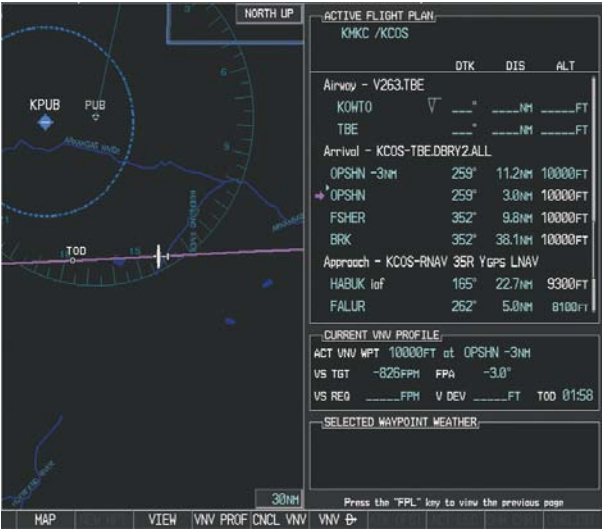
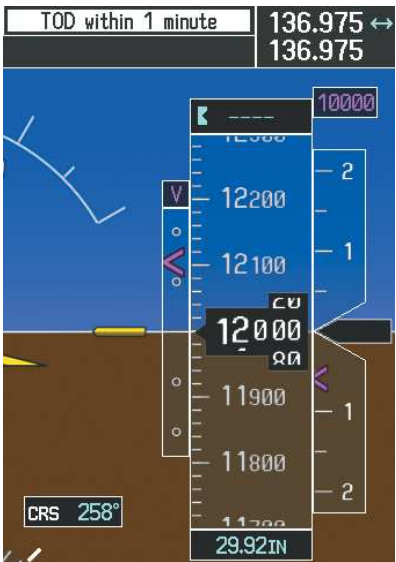

Figure 7-37 Approaching Top of Descent (TOD)
Figure 7-38 VDI & RVSI Upon Reaching Top of Descent (TOD)
- 15) As seen in Figure 7-37, the aircraft is approaching TOD. Note the target vertical speed required to reach the selected altitude. The Vertical Deviation Indicator (VDI) and the Required Vertical Speed Indicator (RVSI) are now displayed on the PFD as shown in Figure 7-38. When the aircraft is within one minute of the TOD, it is annunciated as shown in Figure 7-38, and an aural alert 'Vertical track' will be heard.